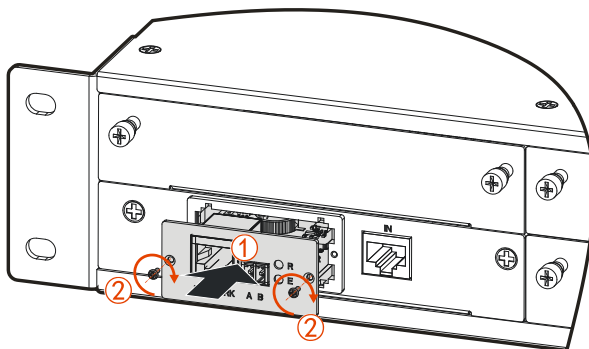

Figure3-15 Install SNMP card
Step 2 Install SNMP card on the system monitor box, as shown in Figure3-15.